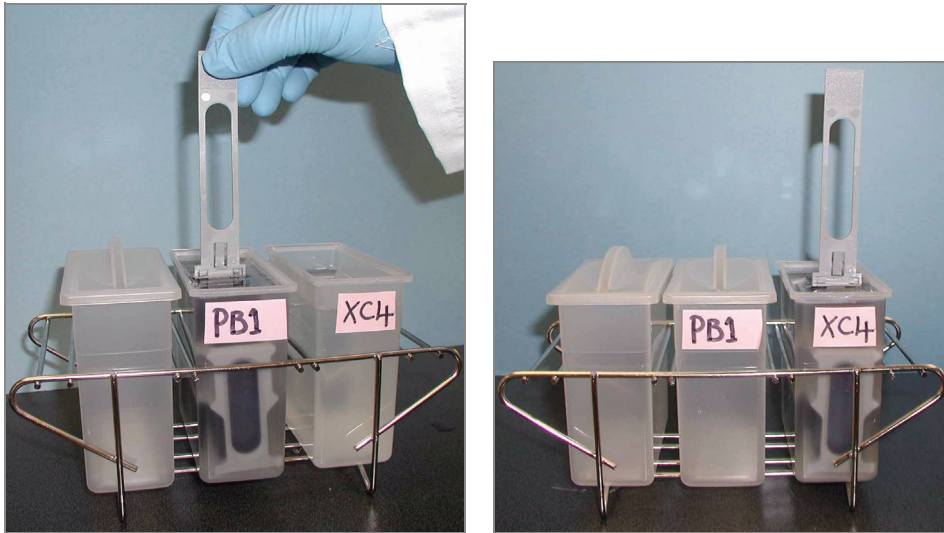

Figure 184 Moving BeadChips from PB1 to XC4
12. Remove the staining rack from the dish containing PB1 and place it directly into the wash dish containing XC4 (Figure 184). The barcode